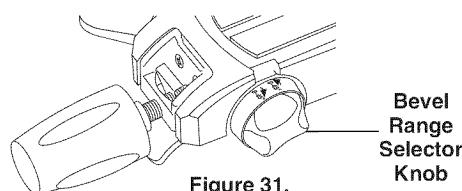

Figure 31.
3. Grasp the front carry handle with the left hand and tilt saw head slightly to the left while rotating the spring-loaded bevel range selector knob with the right hand so the symbol "45-0°" lines up with the arrow on the table (Figure 31). The saw assembly may now be tilted to a right bevel angle up to the 45° stop.
3. Grasp the front carry handle with the left hand and tilt saw head slightly to the left while rotating the spring-loaded bevel range selector knob with the right hand so the symbol "47-47°" lines up with the arrow on the table (Figure 31). The saw as-